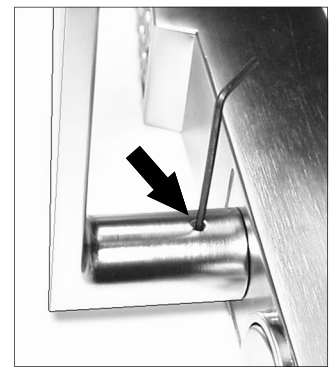

Fig. 3: Tighten lever set screw with 1/8" hex wrench
3. **Install the lever with proper orientation** for the lock/door hand used. Tighten the set screw using a 1/8" hex wrench (see Fig. 3).